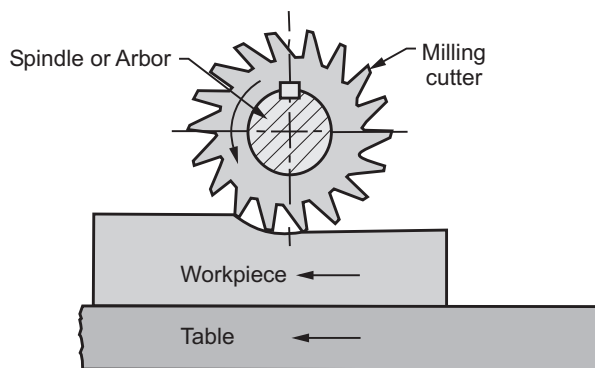

Fig. 5.20 : Working principle of a milling machine
- Also, the workpiece can be fed in a vertical, longitudinal or cross direction. Fig. 5.20 shows the working principle of a milling machine.